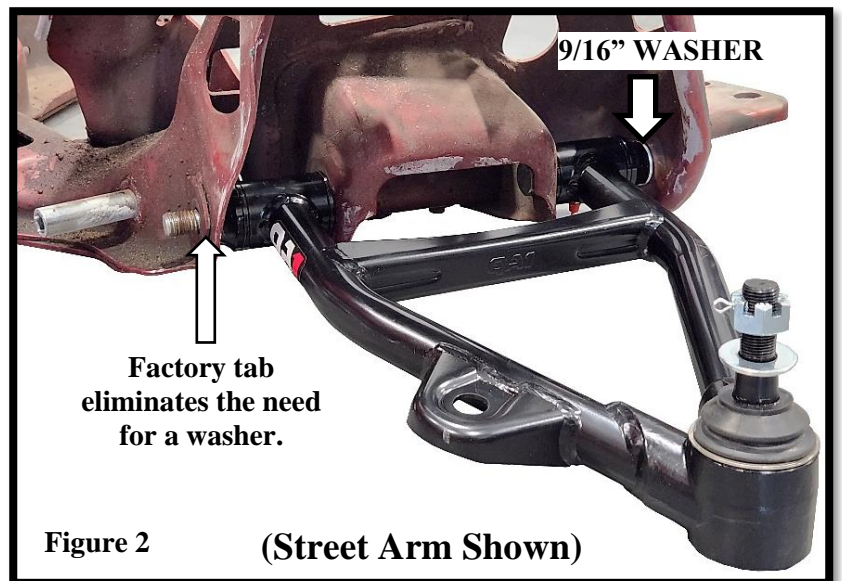

Figure 2 (Street Arm Shown)
1. Install the QA1 control arm into the factory k-member with one **thicker, 1-1/2" O.D. washer** in the rear of the rear connection. (Figure 2)
2. Beginning with the front connection, secure the arm using the included 5/8" x 4.5" bolts inserted from the inboard side of the connection with one washer under the head of the bolts. The factory k-member has welded tabs on the outward ends of the connections and will not need a washer before securing with a 5/8" nut. Torque to 120 lb. ft. (Figure 2)